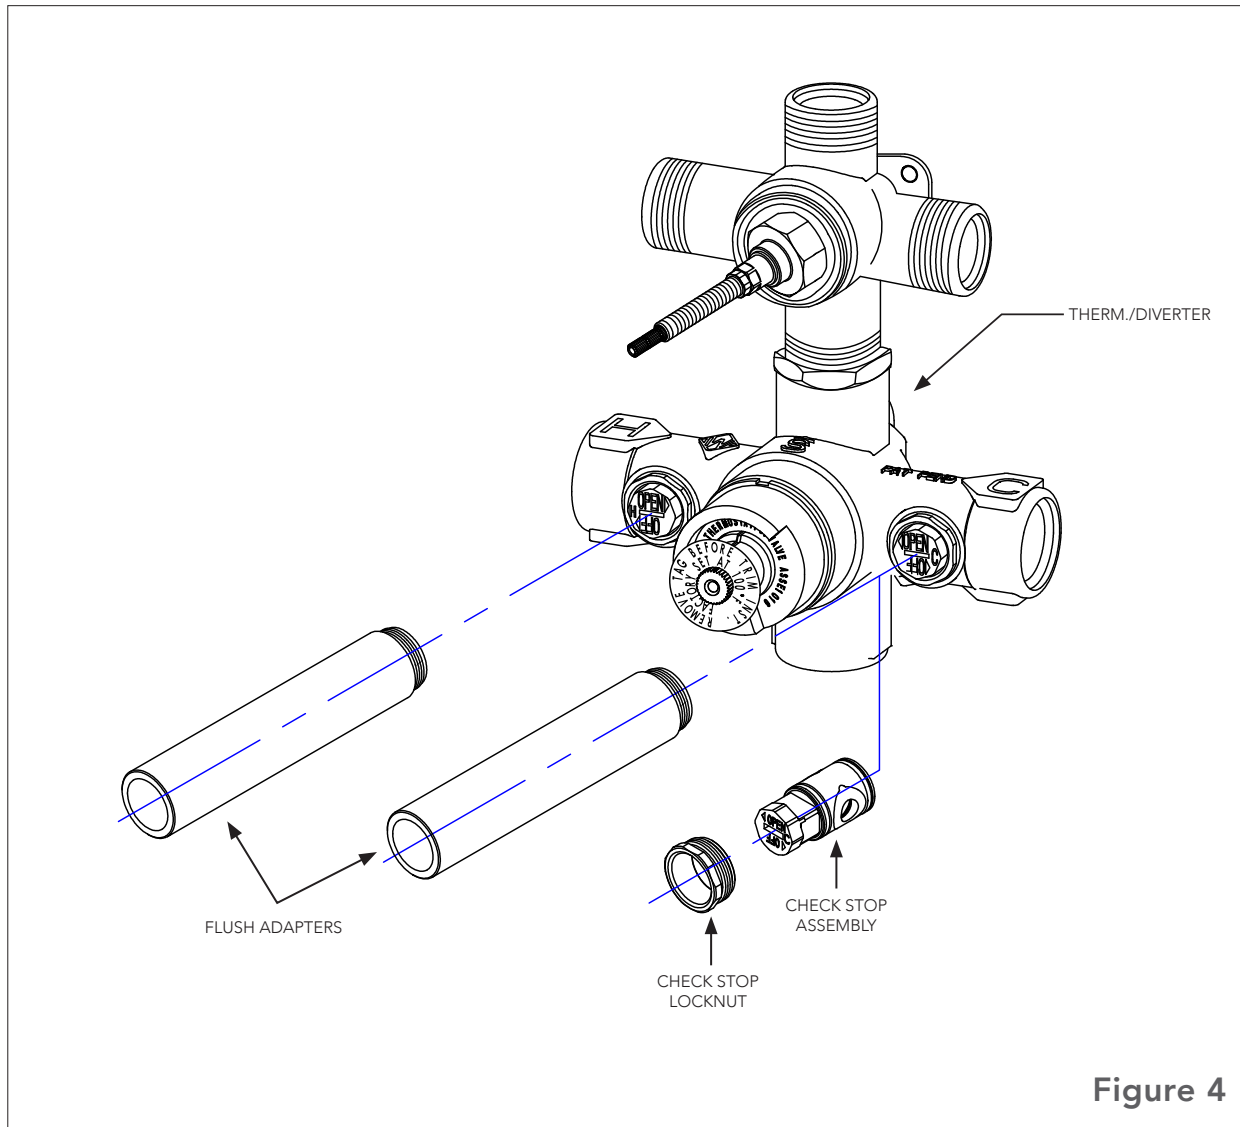

Figure 4
(4) FLUSH SYSTEM
- A. Install flush adapters. See Fig. 4